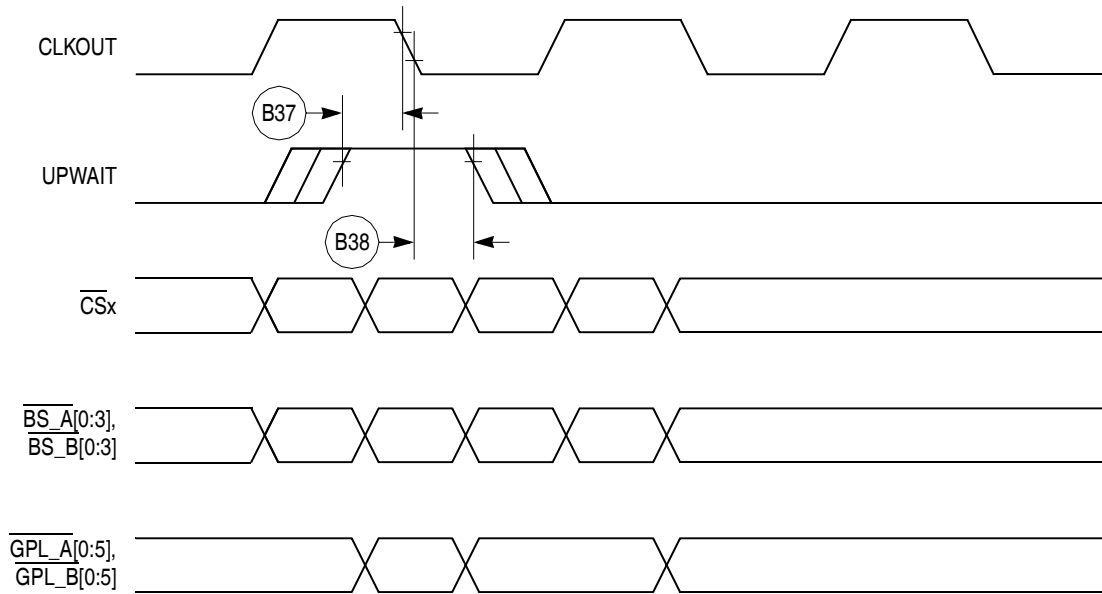

Figure 20. Asynchronous UPWAIT Asserted Detection in UPM Handled Cycles Timing
- 8 The signal UPWAIT is considered asynchronous to CLKOUT and synchronized internally. The timings specified in B37 and B38 are specified to enable the freeze of the UPM output signals as described in Figure 20.
Figure 20 shows the timing for the asynchronous asserted UPWAIT signal controlled by the UPM.